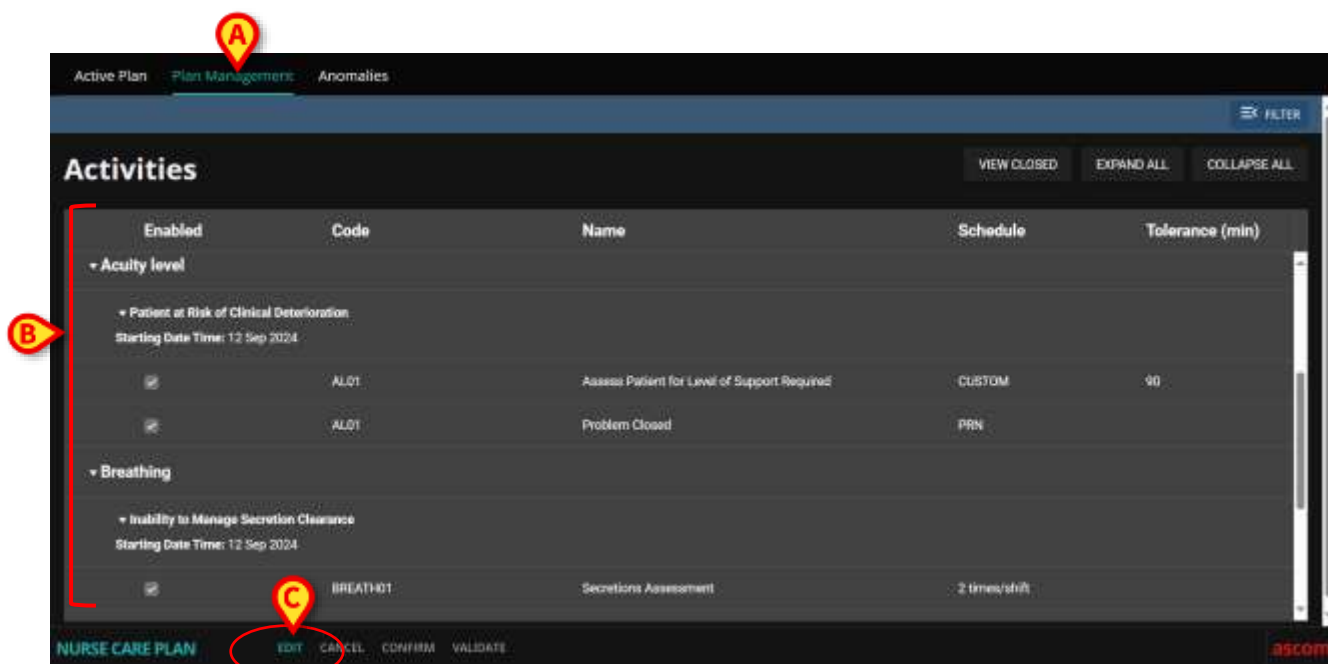

Fig 7
- Click the PLAN MANAGEMENT tab (Fig 7 **A**).
The “Plan Management” screen is displayed (Fig 7). The already present activities are listed on the page (Fig 7 B).
- Click the **Edit** button (Fig 7 C).
- 1) Access the “Plan management” screen (Fig 7).
- 2) Click the **Edit** button (Fig 7 C).